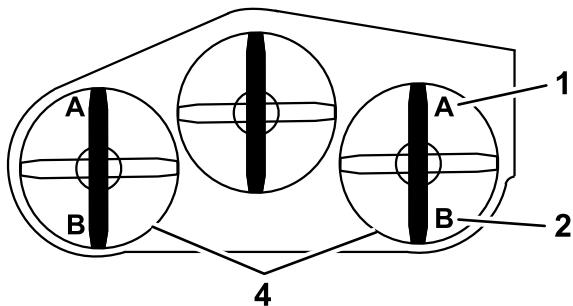

Figure 105
- 9. On both sides of the deck, measure from the level surface to the front tip of the blade (Postion A) as shown in Figure 105.
15. On both sides of the deck, measure from the level surface to the back tip of the blade (position B) as shown in Figure 105.